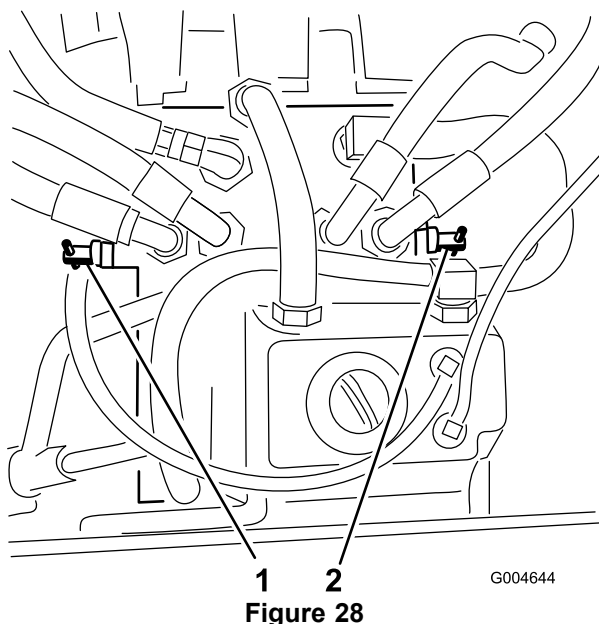

Figure 28
3. Rotate each bypass valve counterclockwise 1 turn (Figure 28).
Rotate each bypass valve clockwise 1 turn and hand-tighten them (Figure 28).